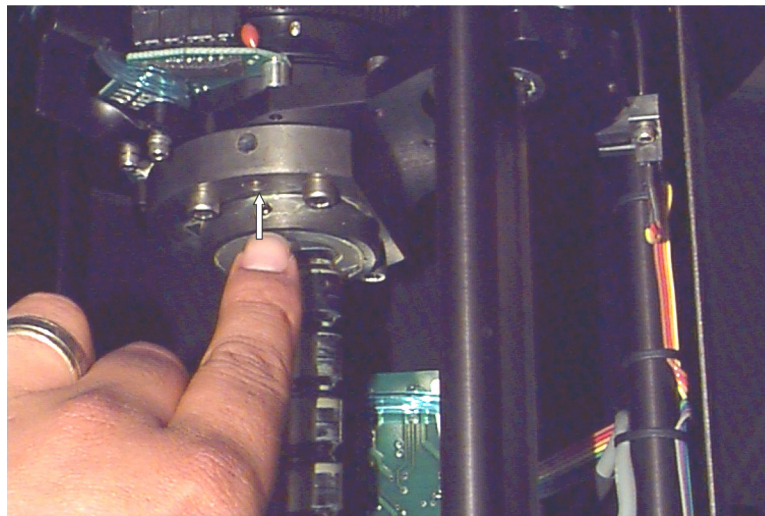

Figure 9-2: Hole in Nut Holder
2. Locate the threaded hole in the nut holder. (Figure 9-2)